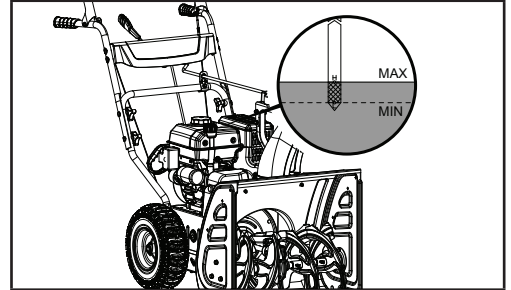

Figure 23
4. With the engine in a level position, fill to the upper limit mark on the dipstick with the recommended oil (0W-30) (Fig. 23).